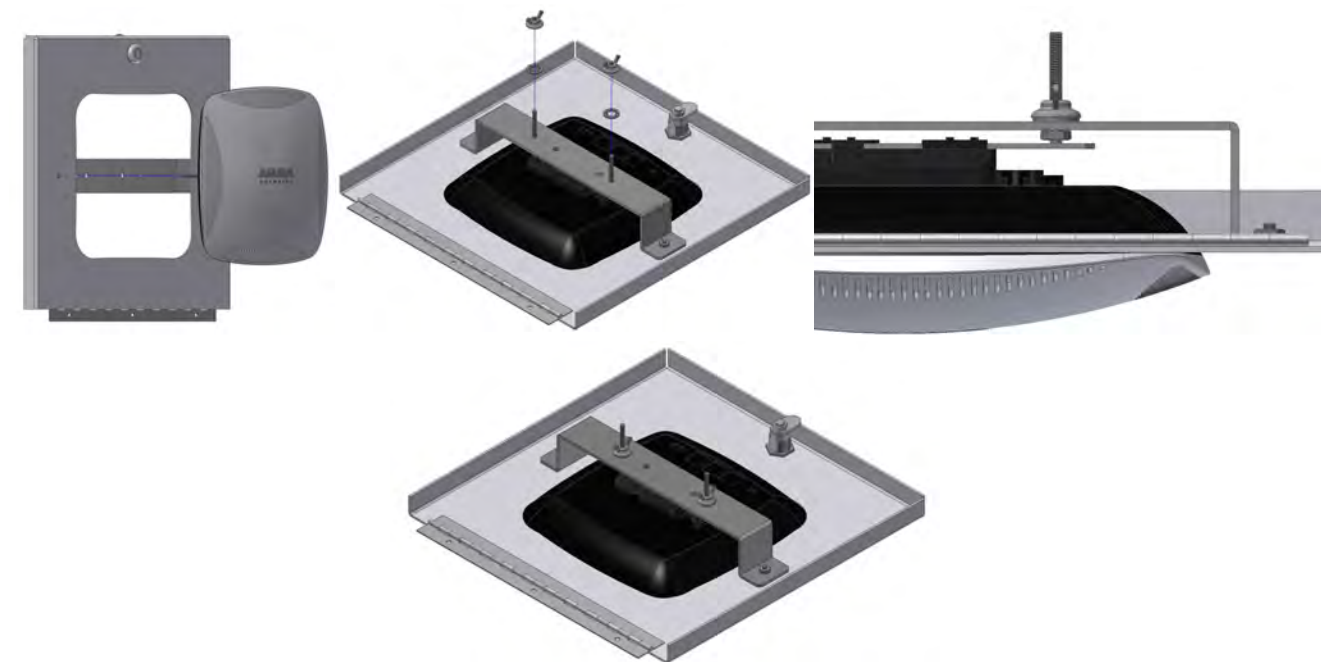

Figure 3
Step 3 – Align the threaded studs to the two outer holes in the bracket attached to the door. Once the access point is snug in the hole, place the lock washer and wing nut onto the threaded rod. Tighten wing nuts until they are snug. With your fingers, tighten the hex nuts on the underside of the bracket then re-tighten the wing nuts until they no longer move freely (Figure 3).